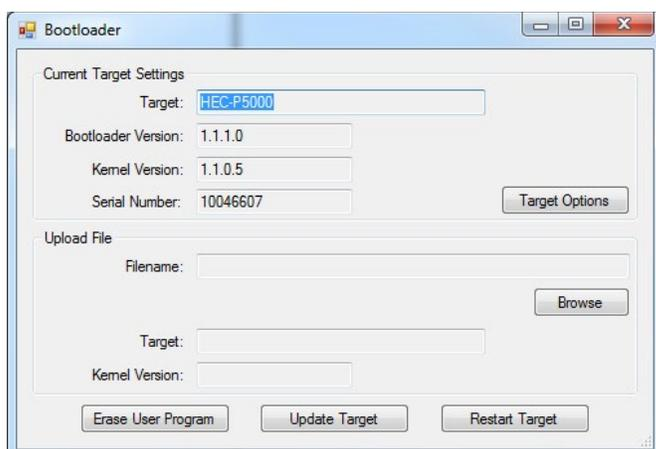

Figure 2.39 - HEC-P6XXX Bootloader
7. Using the menu, click **PROJECT** then **BOOTLOADER**. You may see a window momentarily while EZ LADDER connects to the HEC-P6XXX's bootloader. The Bootloader window will open. See Figure 2.39.